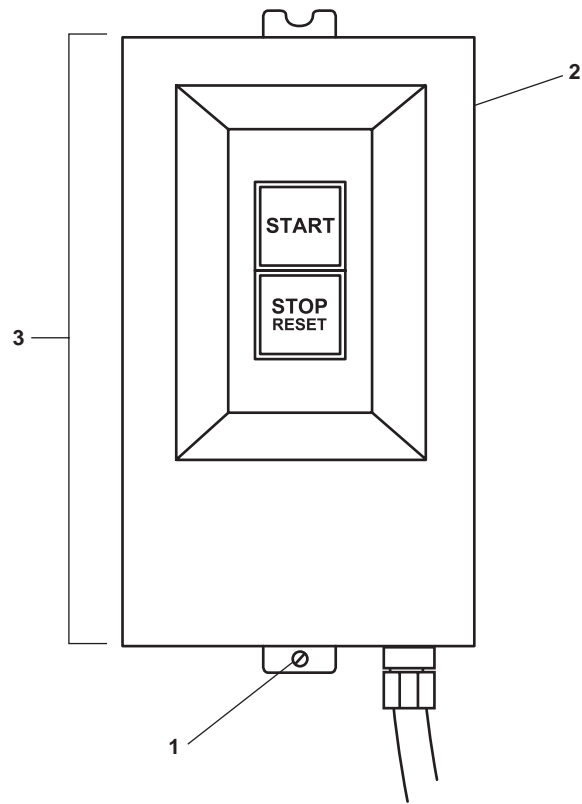

Figure 1. Motor Controller Type 6 (Typical)
1. Remove the screw (figure 1, item 1) and then remove the front cover (figure 1, item 2) from the motor controller (figure 1, item 3).
4. Install the front cover (figure 1, item 2) on the motor controller (figure 1, item 3) and secure it with the screw (figure 1, item 1).